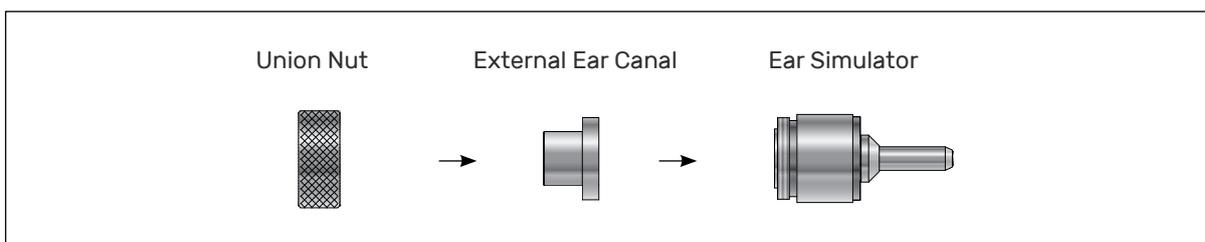

Fig. 57. Mounting the GR0408 External Ear Canal on the ear simulator.
5. Mount the RA0234 Low-noise Ear Simulator, including GR0408 External Ear Canal as shown in Fig. 57 below, and switch on the pistonphone.